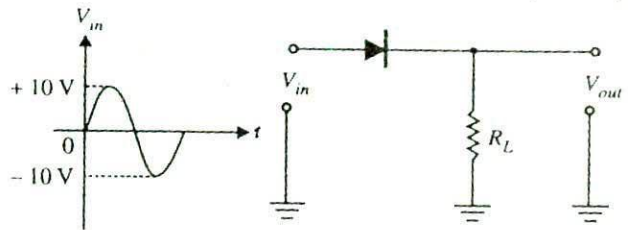

Fig. 20.54
2. In the negative series clipper shown in Fig. 20.54, what is the peak output voltage ? [9.3 V]